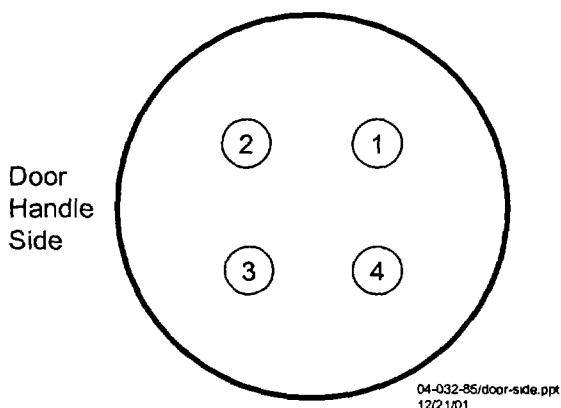

Figure 7-6. High Voltage Flange Interior View
**Maintain numerical sequence of interior detonator jack detonator cables with numerical sequence of fireset CDU (CH1 through CH4). (See Figure 7-6.)**
- 9.4 The Team Leader will **VERIFY** that all detonator cables are properly connected to the INTERIOR DETONATOR JACK. The Team Leader will **CALL OUT** which exploding bridge wire is connected to which feedthrough IAW Figure 7-6.